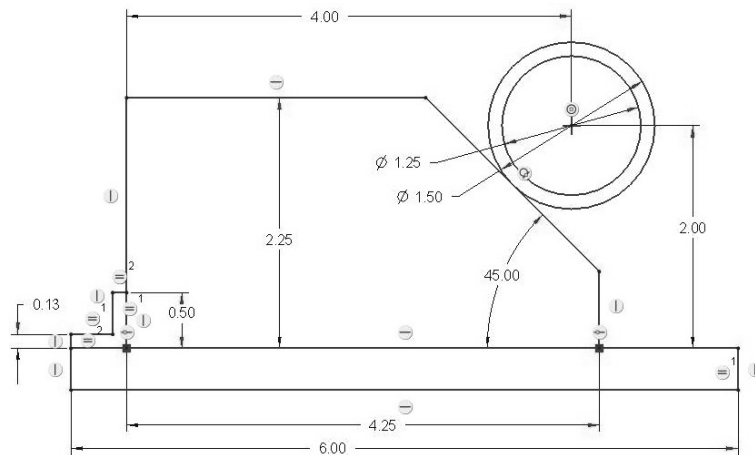

Figure 3-55 Sizing the Block
Step 12: Use the **dimension** tool if necessary to dimension the height and base of the jig. Set the height to 2.25 inches. See Figure 3-55.
- Step 14:** The base dimension can be any value; however, a value near 4.25 inches looks reasonable. See Figure 3-55. To change a dimension, *double-click* LMB on it, then type in the new value followed by the <Enter> key. Will a base size of 4.5, 4.0, or 3.25 work?